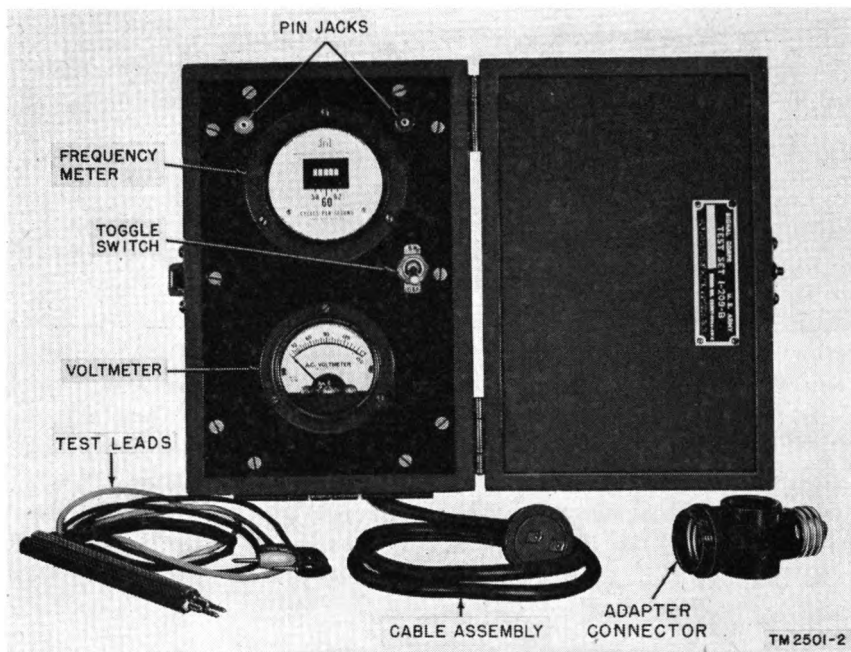

Figure 2. Test Set I-209-B, components.
a. The test set is a self-contained equipment mounted in a wooden case provided with a hinged wooden cover and with a compartment in one of its sides. This compartment is closed by a spring-hinged cover. Mounted on a black bakelite front panel fastened inside the case (fig. 2) are the following:
- (1) A-c voltmeter.
- (2) Frequency meter.
- (3) Toggle switch (*c* below).
- (4) One red and one black pin jack (connectors).
b. A two-conductor, 4-foot long cord (fig. 2) terminating in a two-prong plug is connected permanently to the unit. When the cord is not in use, it is contained in the case compartment (fig. 5) with the test prods and leads (Test Lead Set CX-1331/U) and an adapter connector (fig. 2).
c. The only difference between Test Sets I-209-A and I-209-B is in the location of the toggle switch. On Test Set I-209-A the toggle switch is located on the left side of the panel. On Test Set I-209-B the toggle switch is located on the right side of the panel (fig. 2).
(fig. 2)
a. Plug the cable assembly (fig. 2) into any a-c receptacle of the shelters of the TC-8 or the TC-9 (par. 3), or into any receptacle of a 110-volt ac, 60-cps power supply. The voltmeter will immediately read approximately 110 volts if the outlet is in operating condition.
b. Now throw the toggle switch (fig. 2) to ON and the frequency meter reeds will vibrate. The actual frequency will be indicated by the reed which shows the longest white line (par. 20*b*). When not reading the frequency, throw the toggle switch to OFF.
c. To check the power supply of Radiosonde Receptor AN/FMQ-1 or -1A, remove the left heater lamp from its socket in the receptor. Screw the adapter connector (fig. 2) into this socket, and place the heater lamp in the adapter connector. Insert the cord assembly plug into the receptacle of the adapter connector. Check the voltage and frequency as described in *a* and *b* above.